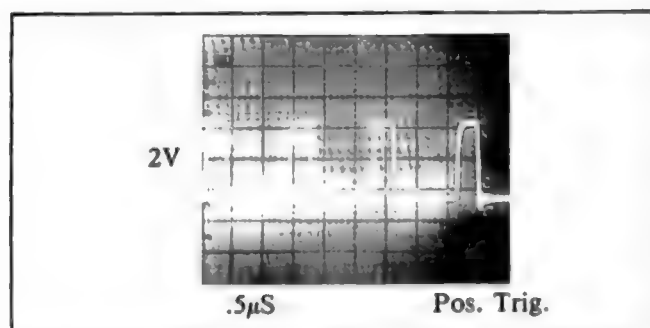

Figure 7-D-5. U462 ALE Signal
c. Make sure the ALE line at TP403 (U462 pin 11) is good, as shown in Figure 7-D-5. If the signal is missing or incorrect, make sure the CPU's clock (at pin 2 and 3 of U462) is at 10.98MHz. Try replacing crystal Y460, if the signal is missing. If still missing, replace U462.